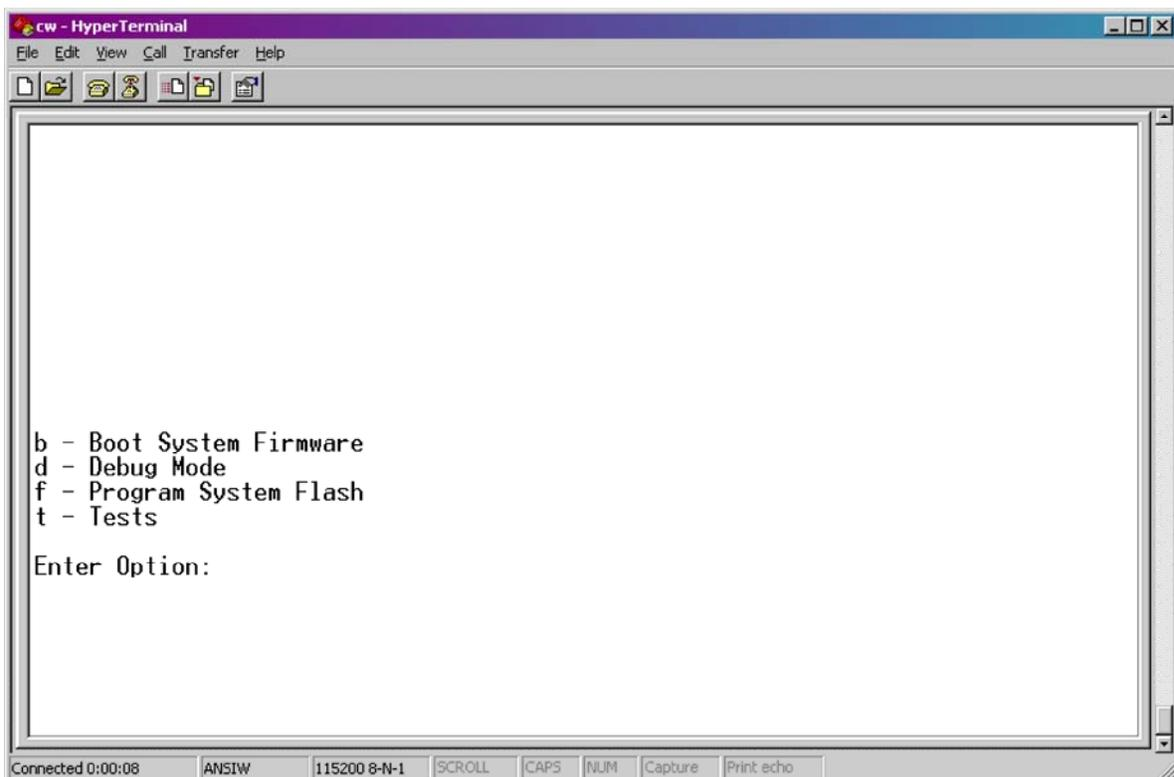
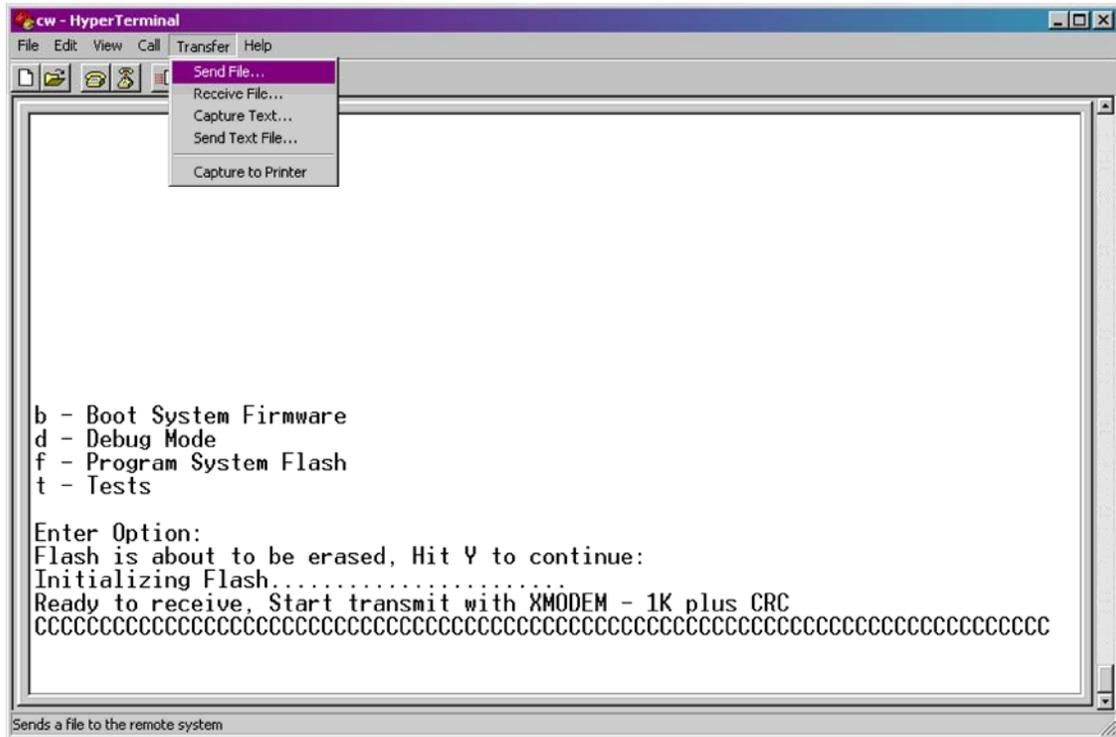
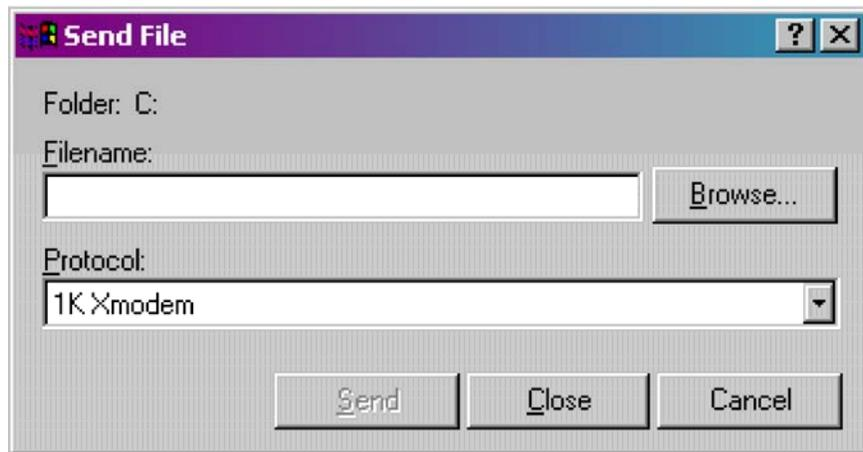

Figure 16 - HyperTerminal Recovery Mode Menu
Figure 17 - HyperTerminal FLASH Download Menu (Ready to Download) - (Transfer/Send File Selected)
Figure 18 - HyperTerminal Flash Download (Send File Dialog Box)
From the HyperTerminal Recovery Mode menu (Figure 16), press the 'F' key to enter FLASH download. A message will be displayed warning that the FLASH is about to be erased; press the 'Y' key at the prompt. The screen will display dots as the flash devices are being erased; this could take a few minutes.
5. When the FLASH is ready for download the letter C will be displayed on the screen. In the HyperTerminal command bar click on Transfer and then Send File (see Figure 17). In the Send File Dialog Box (see Figure 18), select "1KXmodem" for the protocol, enter the filename of the appropriate .bin file in the format "C_3xxxx.bin" (where xxxx varies from release to release). Click on the Send button to start the download (see Figure 18). When the HyperTerminal Recovery Mode Menu of Figure 16 appears, the download has completed.
CW_30 electronics can be tested using the WINDIAG program. From WINDIAG's Main Diagnostics Menu (see Figure 18) the following diagnostic tests can be performed: